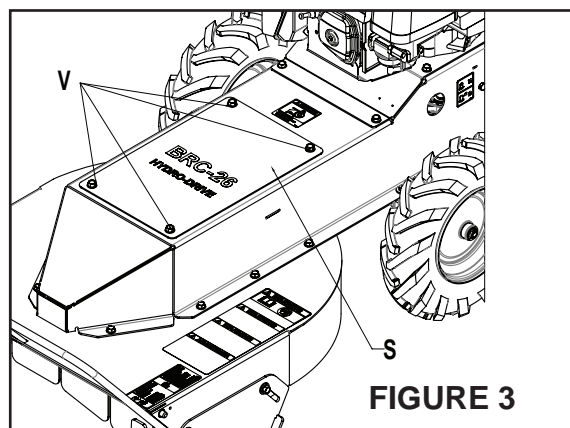

FIGURE 3
The effective length of the blade control rod may be adjusted by turning the rod **J** in or out of the swivel where it connects to the blade bellcrank **L**. **(Figure 4 next page)** Adjust the rod so the bellcrank almost touches (1/64" clearance) the engine plate weldment when the blade control lever is engaged (held to the handle). **(Figure 3)**
2. Remove the four bolts **V** holding the blade belt cover **S** on. (Figure 3)